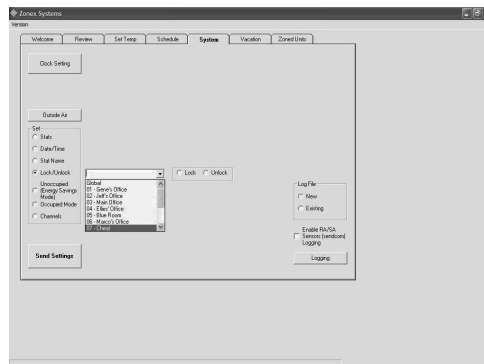

Fig. 15
1. Click on the **Lock/Unlock** radio button to lock or unlock thermostats remotely (see Fig. 15).